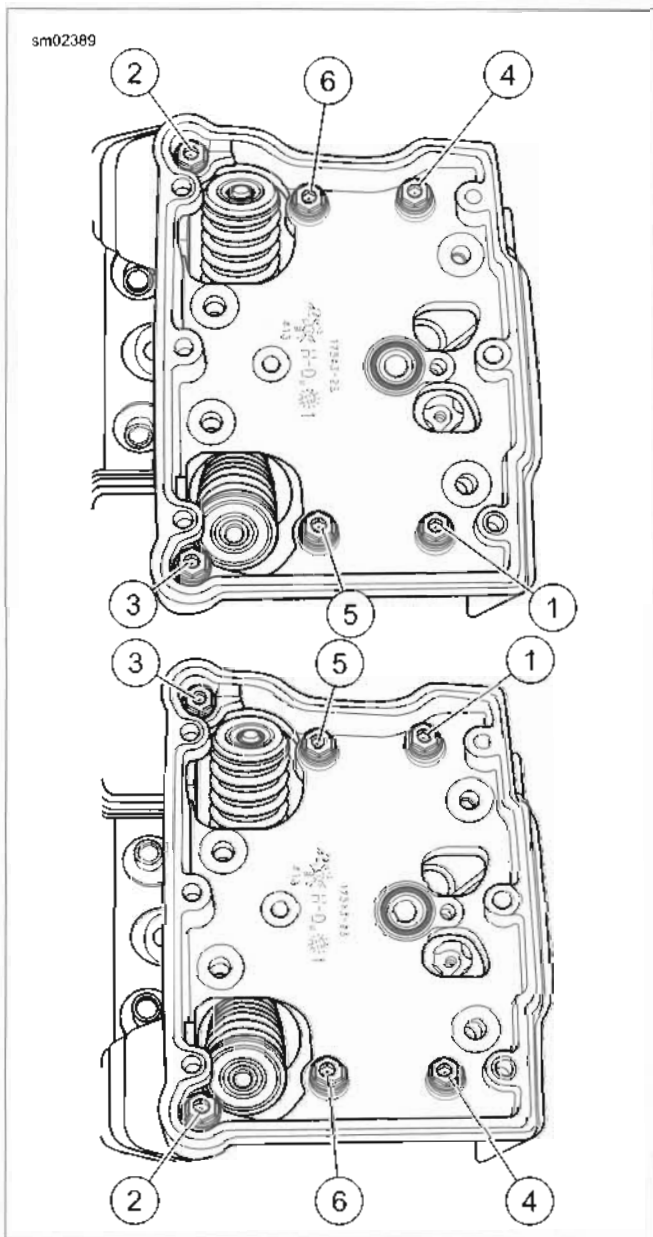

Figure 3-24. Rocker Housing Bolts Removal Sequence
1. See Figure 3-24. Following the sequence shown, loosen the six rocker housing bolts. Remove rocker housing bolts.